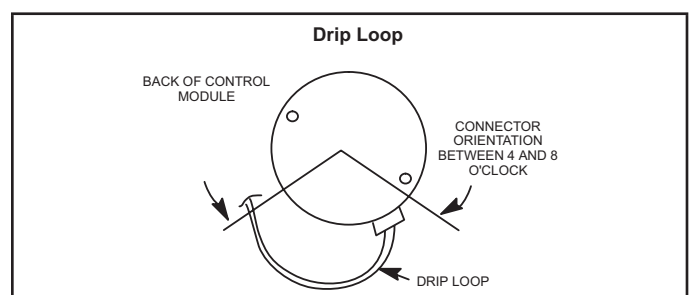

FIGURE 18
- 5 - The electrical connectors of the motor should be facing down to form a drip loop (FIGURE 18). This will direct moisture away from the motor and its electric connections on the motor.
- 4 - Move gas valve switch to OFF position. Do not force. See figure 18.